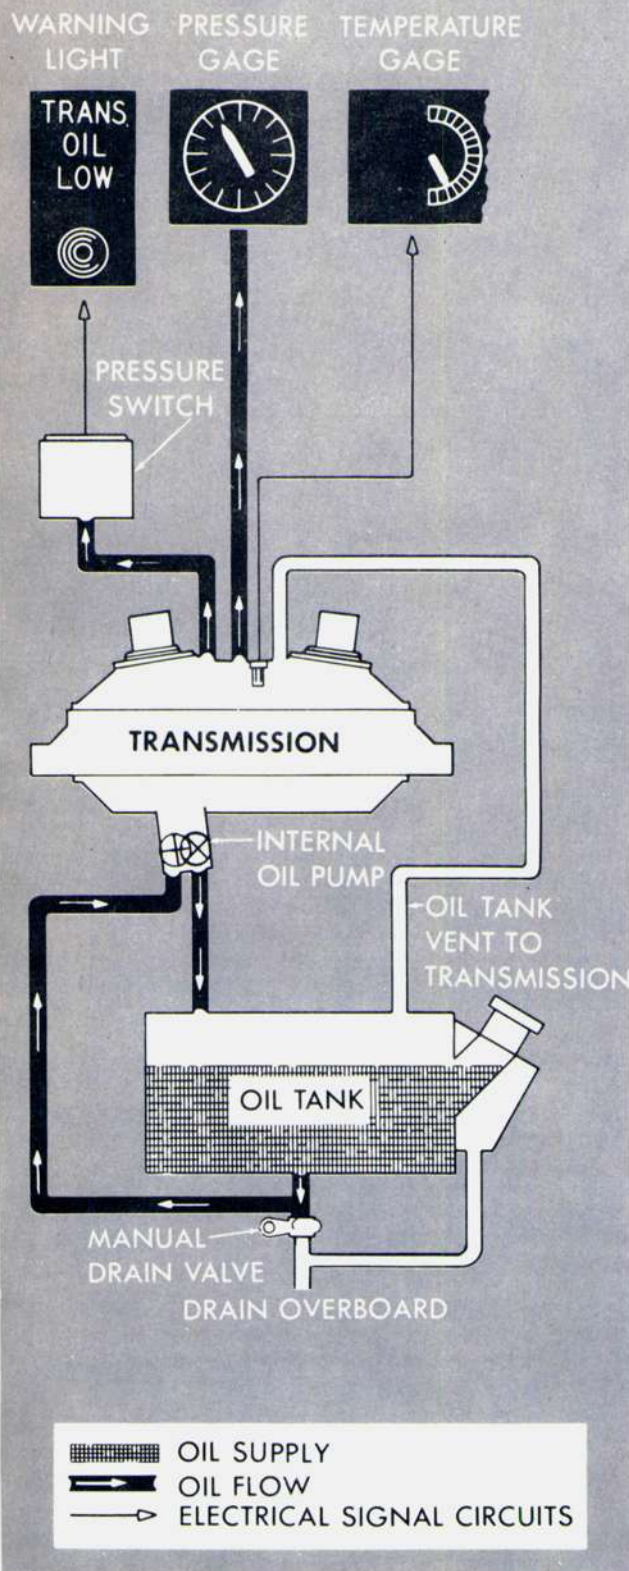

Figure 1-13
**Transmission Oil System.** The transmission oil system (see figure 1-13) consists of an oil tank, with connecting hoses, and an oil pump which is contained within the transmission housing. The oil tank is mounted in the leading edge of the left pylon, and has a usable capacity of seven quarts. Refer to figure 1-24 for the specification and grade of oil.